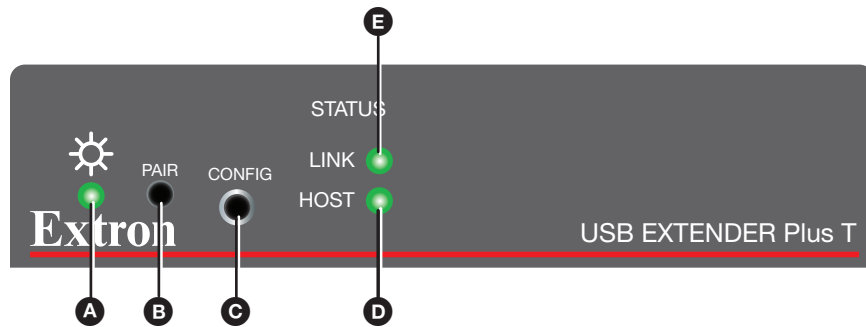
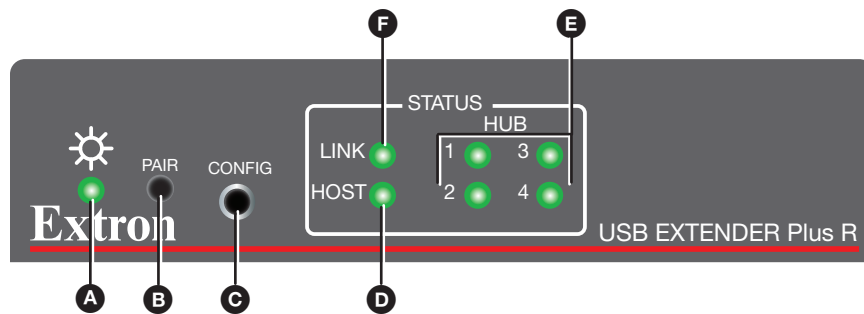

Figure 6. Transmitter Front Panel
Figure 7. Receiver Front Panel
1. Using a stylus or small screwdriver, press the recessed **Pair** button (see figure 6, **B**, on the page 9) on the transmitter front panel and hold it for 1 second. The front panel Link LED on the transmitter (see figure 6, **F**) begins blinking as pairing is initiated.
The front panel Config ports on both the transmitter and the receiver (see figure 6, **C**, on the next page and figure 7, **C**, on page 10) enable communication with a computer via an RS-232 connection. Connect a 9-pin D-to-2.5 mm cable from the computer serial port to the Config port on the transmitter or receiver front panel to enable serial communication. SIS commands can be entered at the computer and issued to the transmitter or receiver through these ports to control and configure the unit. The protocol for the ports is 9600 baud, 8 data bits, 1 stop bit, and no parity.